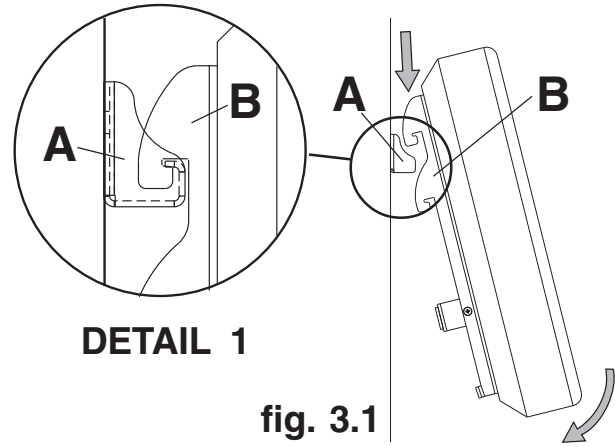
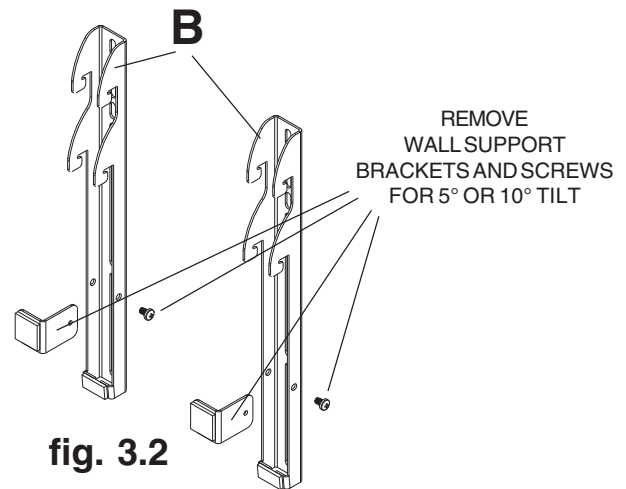
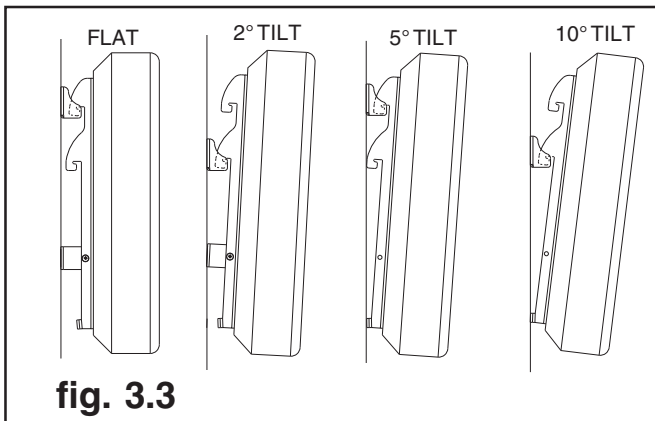

fig. 3.1
fig. 3.2
fig. 3.3
Hook vertical brackets (B) onto wall plate (A) using top hooks for no tilt and bottom hooks for 2° tilt as shown in figure 3.3. Hooks of vertical brackets must be engaged securely onto wall plate as shown in detail 1, then slowly swing screen toward wall as shown in figure 3.1.
Remove wall support brackets and screws from vertical brackets as shown in figure 3.2. Hook vertical brackets (B) onto wall plate (A) using top hooks for 5° tilt and bottom hooks for 10° tilt as shown in figure 3.3. Hooks of vertical brackets must be engaged securely onto wall plate as shown in detail 1, then slowly swing screen toward wall as shown in figure 3.1.